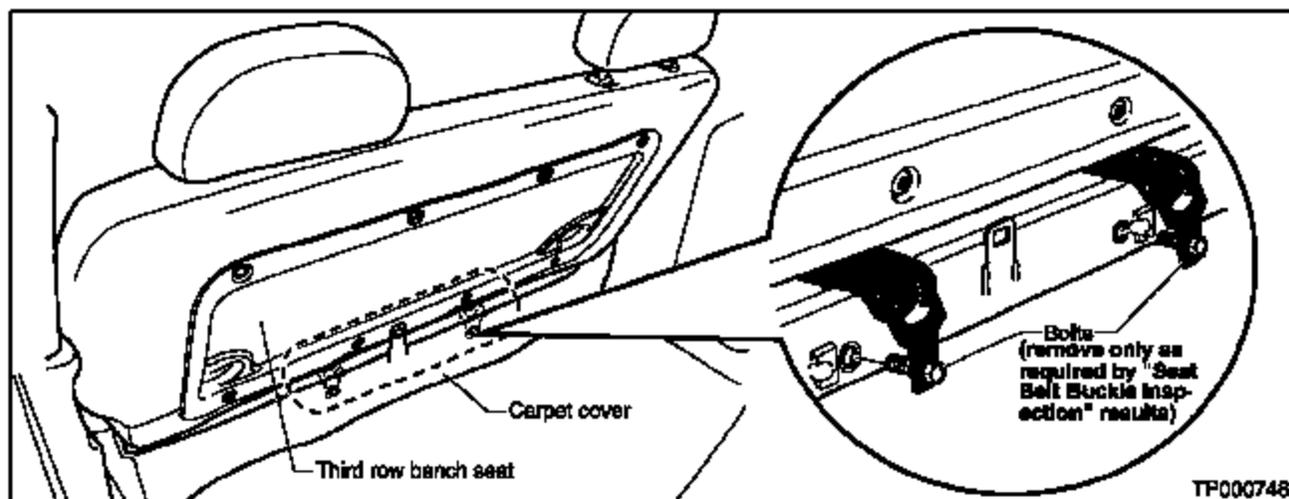

Figure 11
2. Working at the back of the third-row bench seat, remove the bolt(s) and remove the seat belt buckle(s) as required by the Seat Belt Buckle Inspection results (see Figure 11).